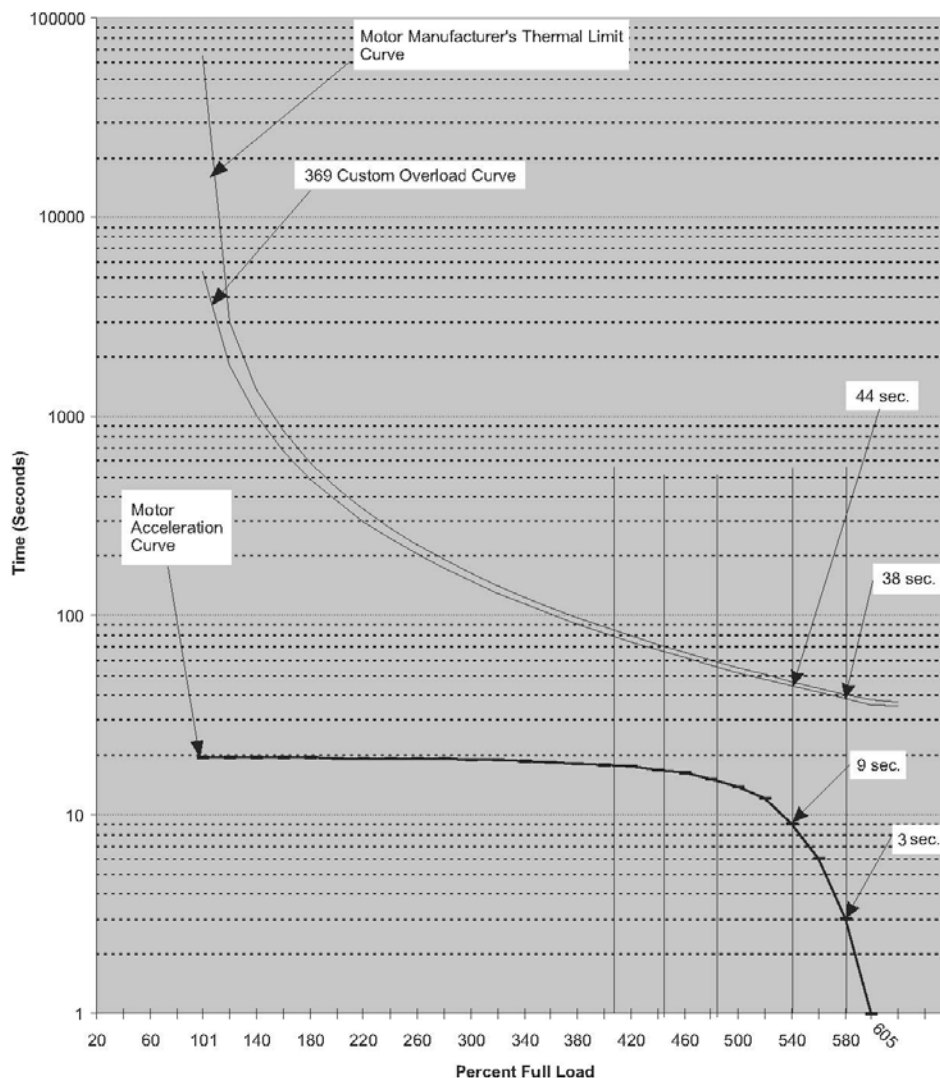

FIGURE 7-6: Thermal Limit Curves
4. Draw lines intersecting the acceleration curve and the overload curve. This is illustrated in FIGURE 7-6: *Thermal Limit Curves* on page 7-24.